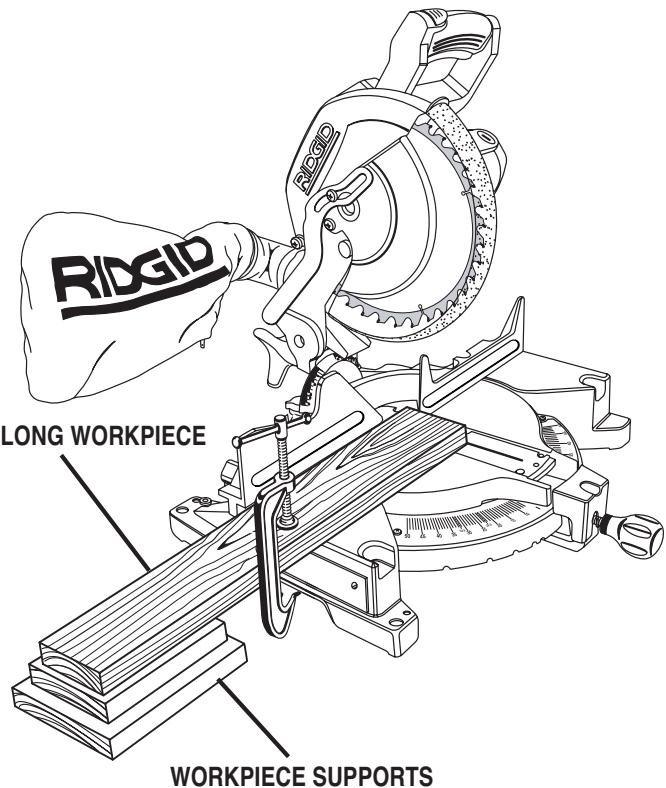

Fig. 28
- When cutting long pieces of lumber or molding, support the opposite end of the stock with a roller stand or with a work surface level with the saw table. See Figure 28.
- When cutting long pieces of lumber or molding, support the opposite end of the stock with a roller stand or with a work surface level with the saw table. See *Figure 28*.
See *Figure 28*.